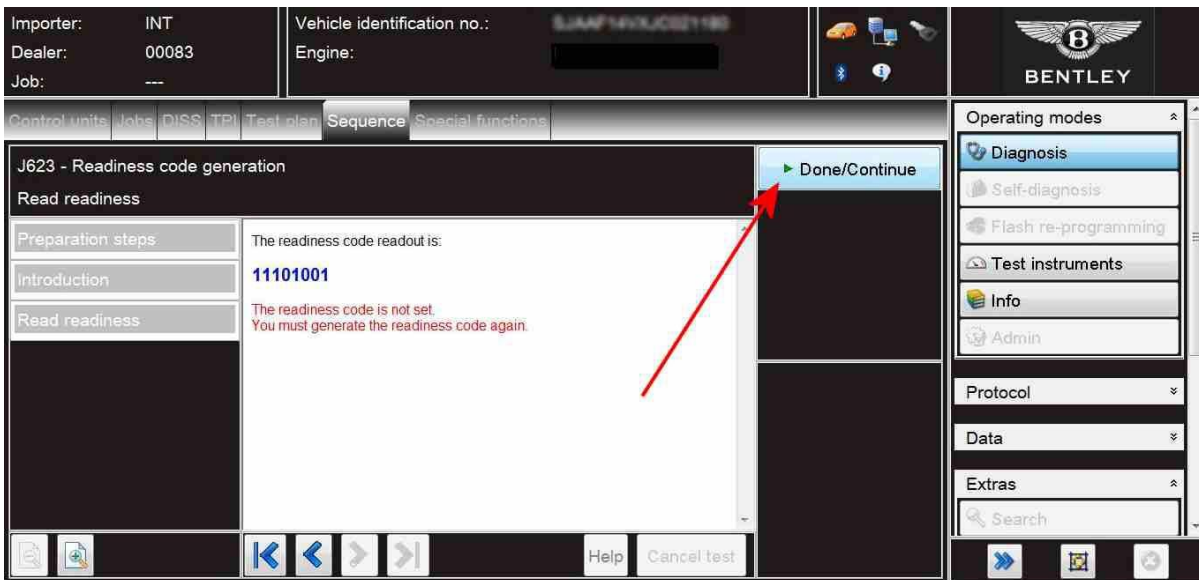

Figure 13
- The screen shown in Figure 13 will be displayed – Follow all on screen prompts NOTE: The engine speed increases and decreases automatically during this process